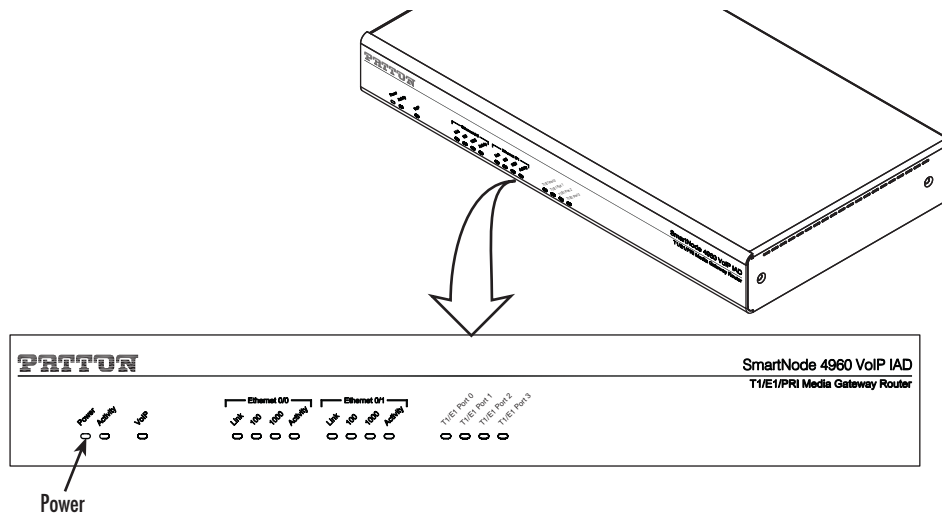

Figure 6. Power LED (SmartNode 4960 shown)
4. Verify that the green *Power* LED is lit (see figure 6).